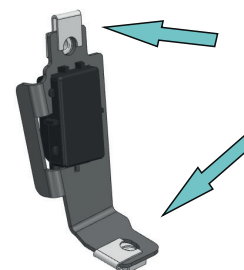

Fig. 22
24. Install U-nuts M6 (item J) on brackets for license plate light (item 3,4). (Fig.22).